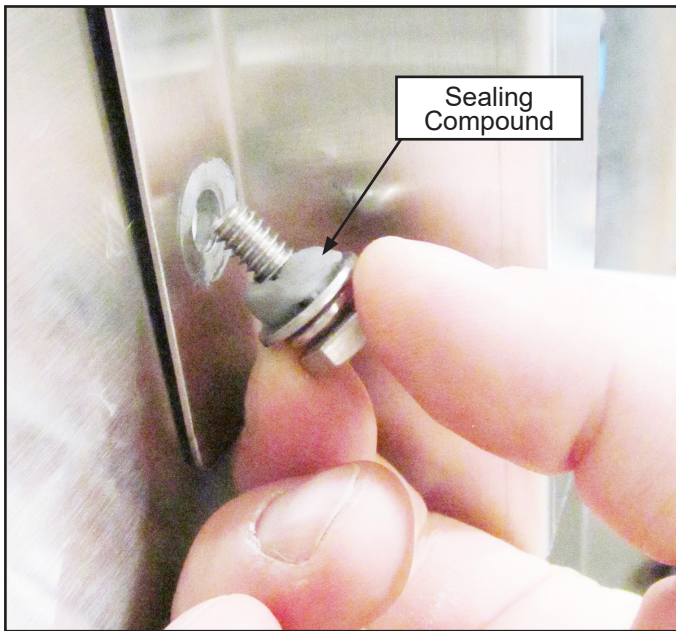

Fig. 5
6. Apply a small bead of sealing compound to the (4) fasteners saved in step 4. Secure the guide cover end of the splash shield to the machine, (Fig. 5).